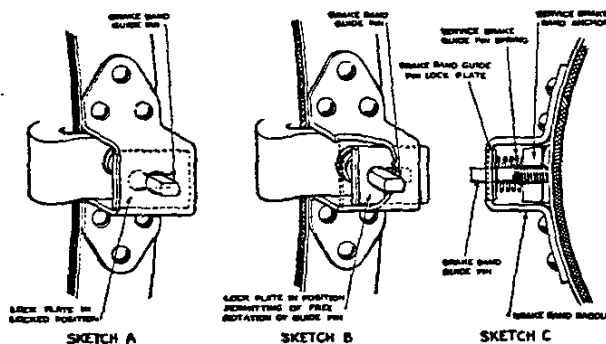
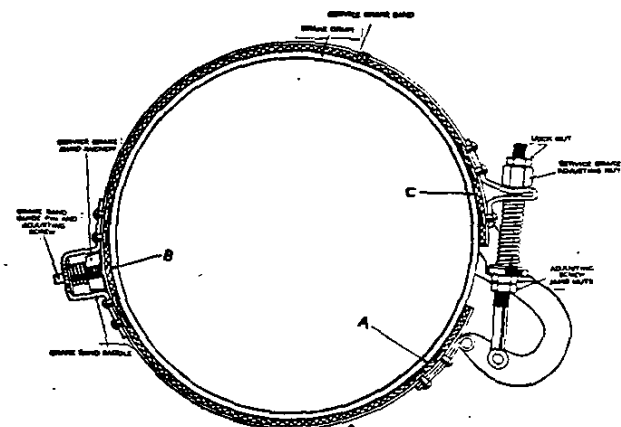

Figure 9
Figure 10
1. With operating lever against stop (Fig. 9) adjust lower adjusting nut for a 1/32" band clearance at A in Fig. 10.
2. Slide locking plate on saddle as shown in Fig. 9 and adjust guide pin for a 1/32" band clearance at B in Fig. 10.
3. Adjust upper adjusting nut (Fig. 10) for a 1/32" band clearance at C.